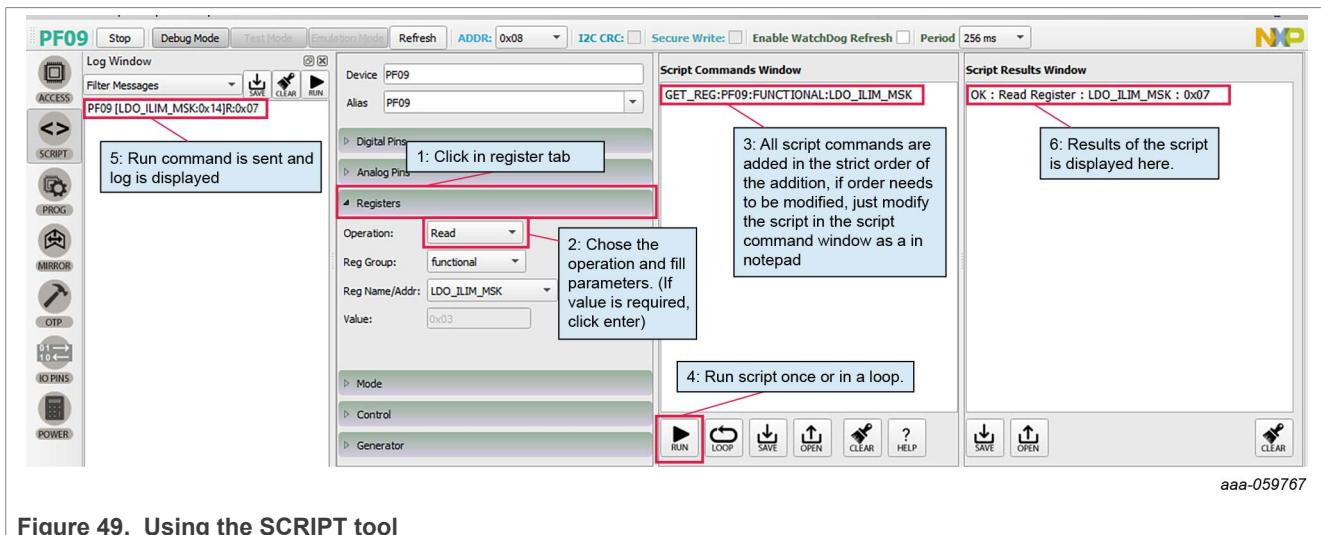

Figure 49. Using the SCRIPT tool
- How to use the script tool: Click the Register tab brings up the parameters panel shown in Figure 49. A Write operation to the CTRL1 register in the functional register group has been selected. The value 0x00 is selected as the value to be written to the register. Hit **Enter** with the cursor in the value field enters the well-formed command in the Script commands window.